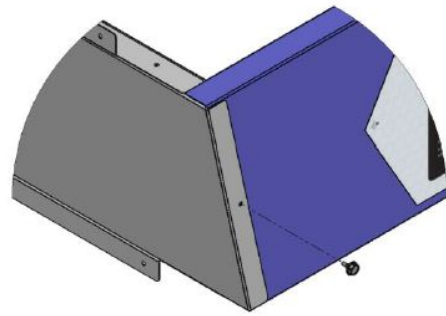

Figure 4: Secure rear panel to side panel with supplied No. 10 x 3/8" screw.
4. Secure the rear panel to the side panel using the supplied No. 10 x 3/8 screws in the aligned pre-drilled holes as shown in Figure 4.
3. Secure the rear panel to the side panel using the supplied No. 10 x 3/8” screws in the aligned pre-drilled holes as shown in Figure 4.